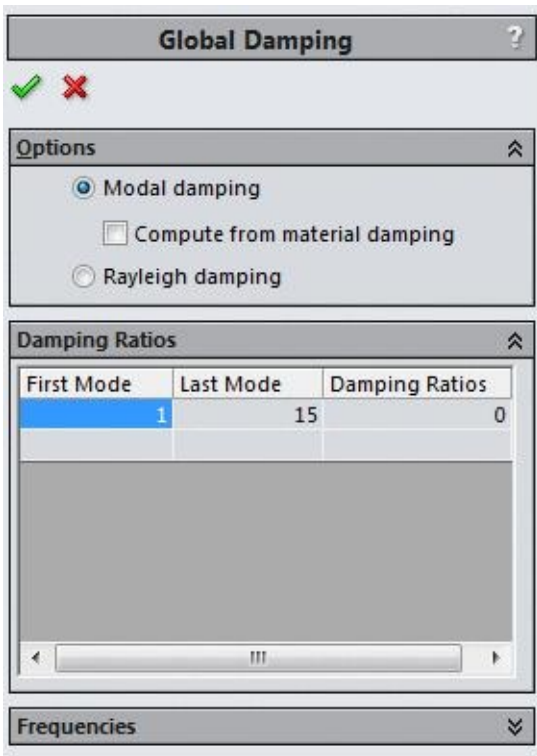

Figure-6. Global Damping PropertyManager
- Click on the **Global Damping** button in the **Ribbon**. The **Global Damping PropertyManager** will be displayed; refer to Figure-6.